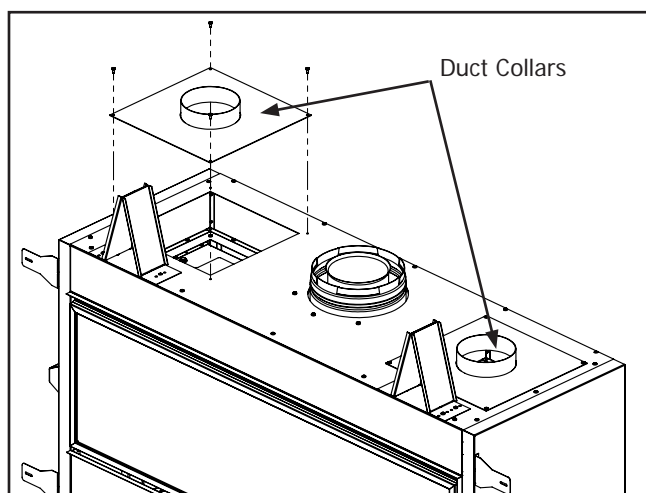

Figure 18. Duct Collars Installed
Step 2: Attach the supplied duct collars to the top of the cabinet as shown (Figure 18). Secure the collars by re-using the eight (8) screws saved in the previous step.